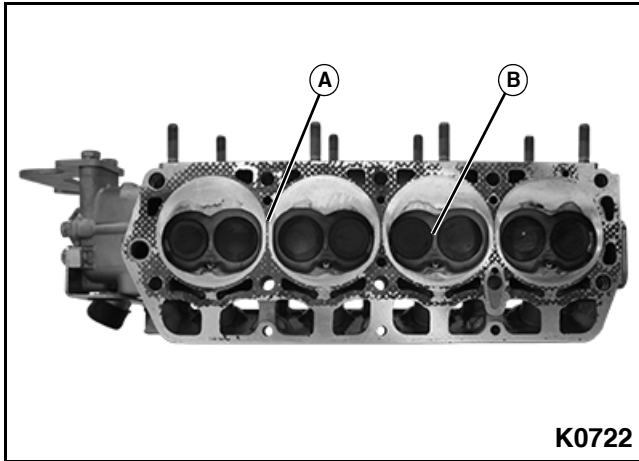

Figure 3-121
2. Inspect cylinder head for cracks. If any cracks are found, replace cylinder head. **See Figure 3-121.**